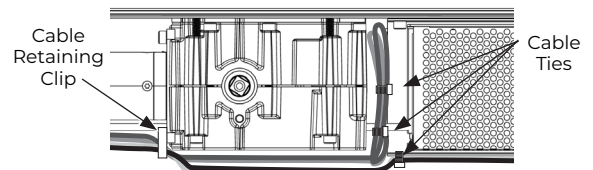

Figure 18 Left Hand Door, Looking down from top
- With door fully closed, rotate the main arm toward the latch edge of the door until the arm tube is at a 90° angle (perpendicular) to the door. (Figure 18)
- Use the arm screw provided with the main arm to secure the tube to the forearm rod. (Figure 18)
- To prevent wire crimping, use the cable ties provided to neatly store excess wiring as shown. The power cabling to the Monitor board should be cable tied in front of the power supply. (Figure 18)